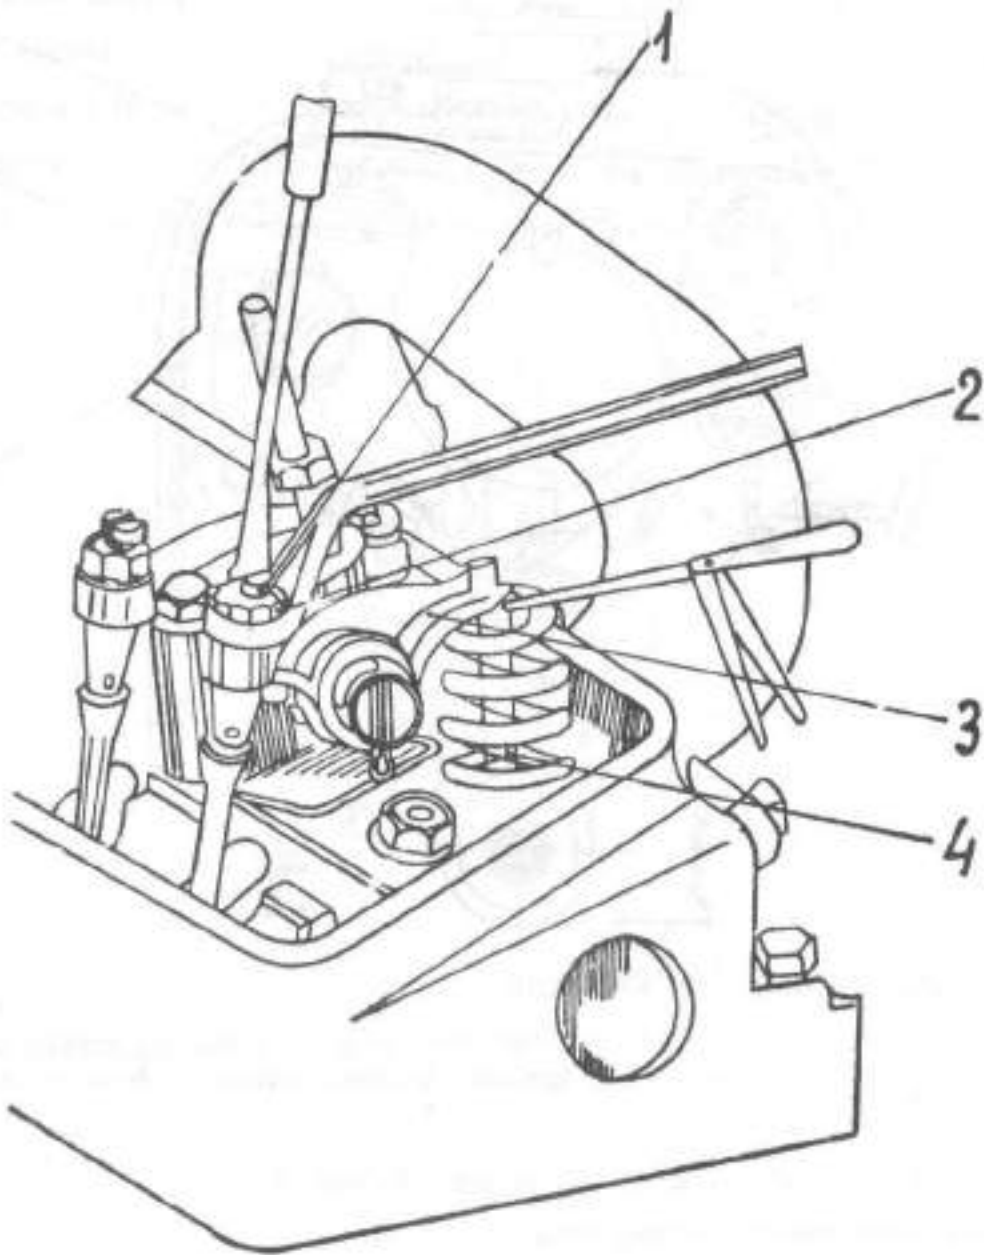

Fig. 2.17. ADJUSTING CLEARANCE BETWEEN VALVES AND ROCKER ARMS.
- Slacken special nut/locking the adjusting screw (1) and by means of a screw-driver turn adjusting screw till required 0.45 mm clearance is obtained (see fig.2.17). The clearance should be measured with a feeler gauge.
- Lock adjusting screw by tightening special nut (2).